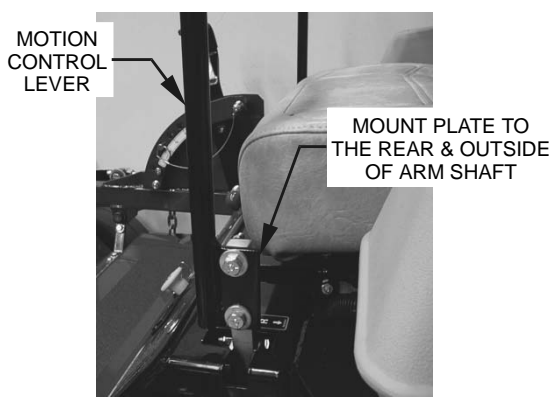

FIGURE 4
- 3.6.1 Loosen and remove the two (2) 3/8" x 1" bolts and spring disc washers which attach the motion control levers to the control arm shafts for shipping and the two (2) 3/8" x 1" bolts and spring disc washers which are screwed into the control arm shafts.
- a) Install the left motion control lever onto the control arm shaft (See Figure 4) on the left side of the console. Place the lever (with the mounting plate towards the rear) on the **outside** of the control arm shaft and secure with the bolts and washers. Position the lever so the bolts are in the center of the slots on the lever mounting plate and tighten until snug. Repeat on opposite side of unit.